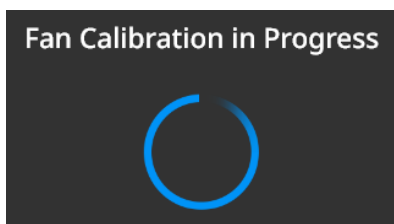

Figure 19
26. The controller displays **Fan Calibration in Progress** while calibrating with the filter attached (see Figure 19).